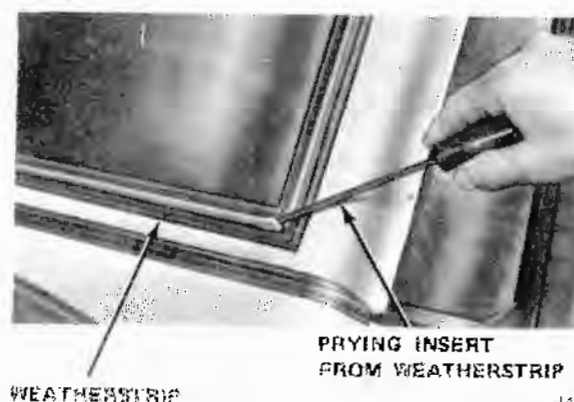

Fig. 17-1 Removing Windshield Moulding Insert from Weatherstrip
- (1) Cover adjoining painted surfaces to protect finish.
- (2) Remove windshield wiper arms using a wiper arm removal tool if available. If not, use a wide blade screwdriver.
- (3) On vehicles so equipped, remove the windshield insert moulding or V-shaped rubber strip from around the outside of the windshield using a screw-driver blade and carefully pry the insert from the slit in the weatherstrip (fig. 17-1).